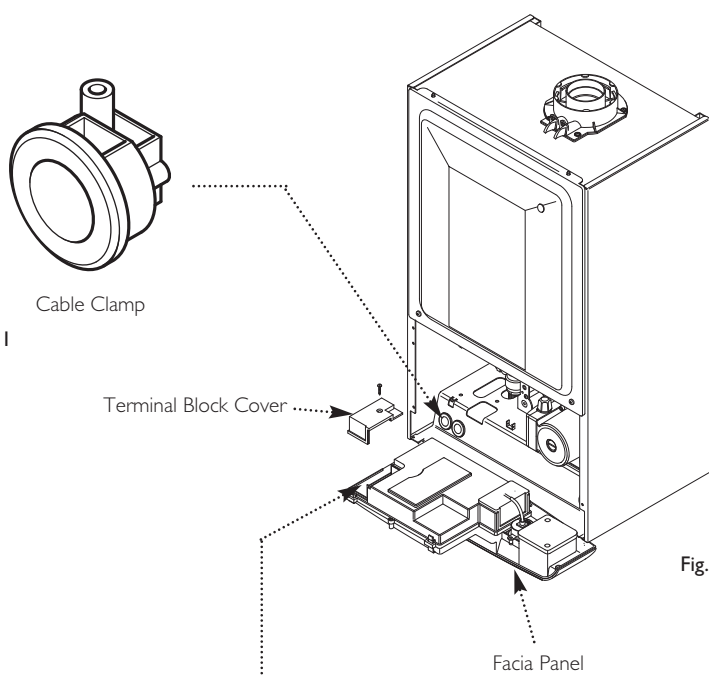

Fig. 30
2. Completely undo the screws securing the facia panel and hinge it down (Fig. 30).
3. Undo the terminal block cover securing screw and remove the cover (Fig. 30).